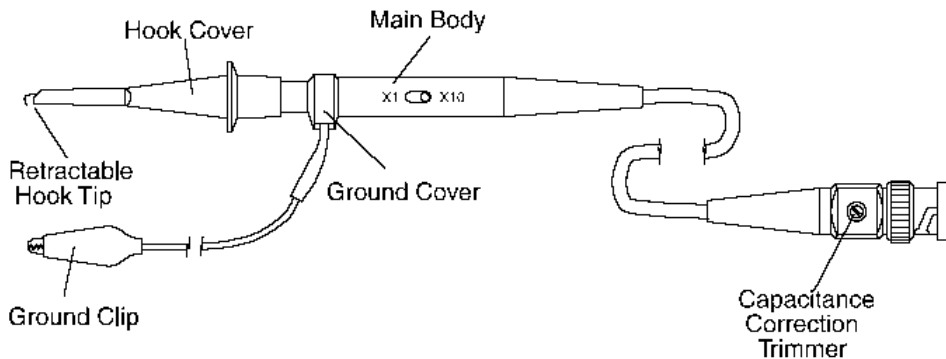

Fig. 1.6. Probe
7. Set one of the supplied probes (Fig. 1.6) for $\times 10$ attenuation. Then, connect its BNC end to the CH1 or X IN Connector.